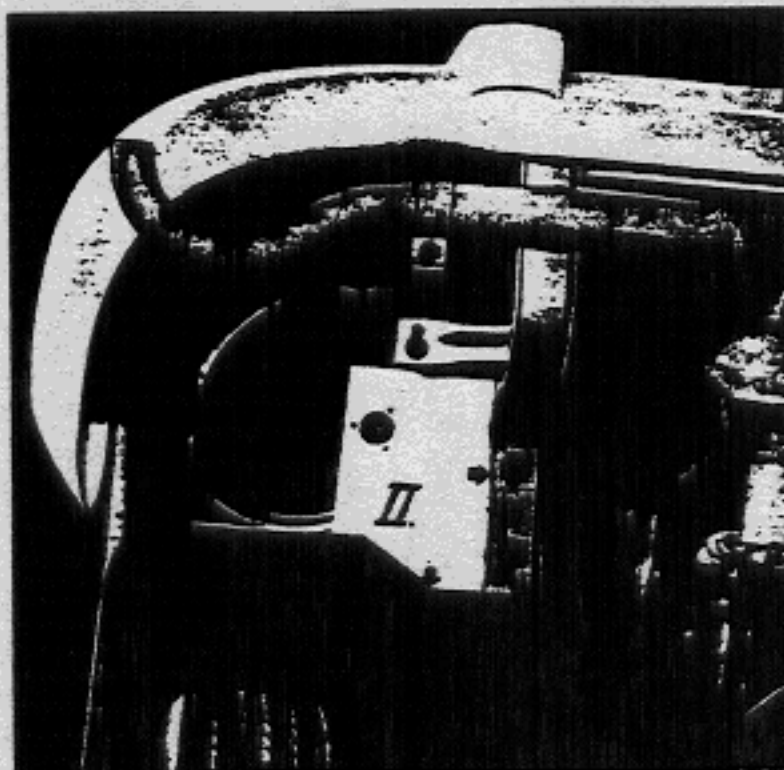

Fig. 4
- 5 - Lift rear of vehicle. With template II, mark off and drill the hole for the intake pipe and the holes for the pipe bracket from underneath. Clean up holes (Fig. 4).